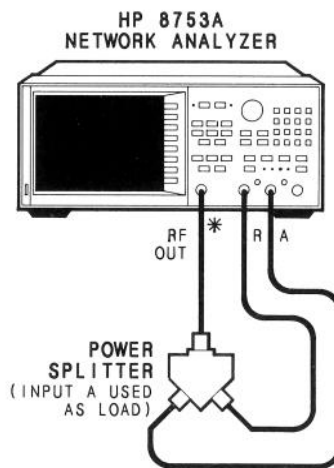

Figure 3. Analog Bus Correction Constant Setup.
2. Connect the instrument as shown in Figure 3.